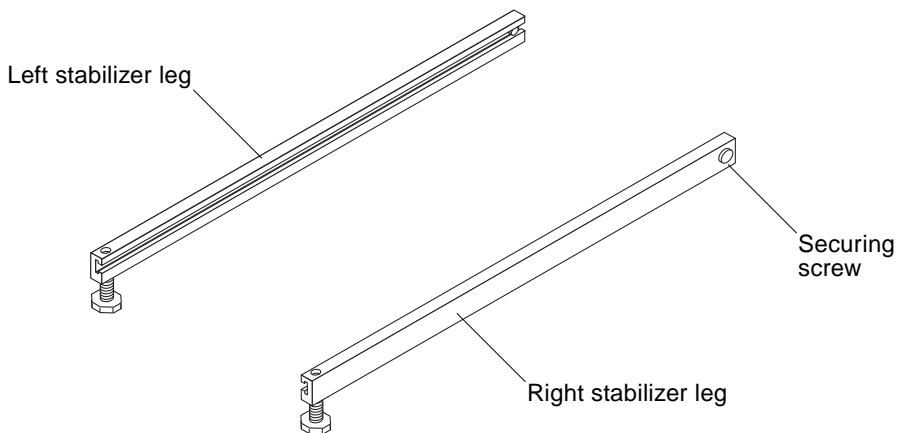

FIGURE 1-2 Stabilizer Legs
1. Loosen the securing screw on the right stabilizer leg (FIGURE 1-2).